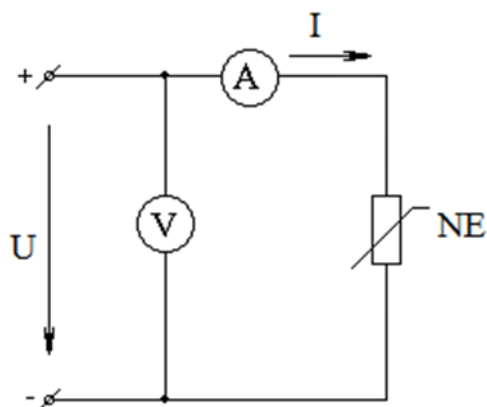

Figure 8.1
8.2.1 Get the readings for the construction of the current-voltage characteristics of two non-linear elements and one linear element (as directed by the teacher) according to the scheme in figure 8.1. Fill in the Table 8.1 for each nonlinear element.